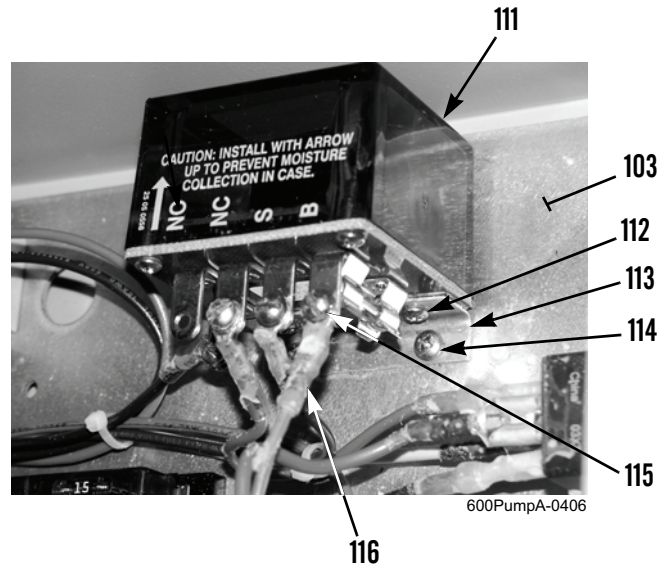

Figure 31. Stopbox.
1. Remove four screws (Figure 31, Item 115) and wires (Figure 31, Item 116) from stopbox (Figure 31, Item 111).
2. Remove two screws (Figure 31, Item 114) and stopbox (Figure 31, Item 111) from inside circuit board panel (Figure 31, Item 103).
3. Remove two screws (Figure 31, Item 112) and bracket (Figure 31, Item 113) from stopbox (Figure 31, Item 111).
1. Install bracket (Figure 31, Item 113) on stopbox (Figure 31, Item 111) with two screws (Figure 31, Item 112).
2. Install stopbox (Figure 31, Item 111) on inside circuit board panel (Figure 31, Item 103) with two screws (Figure 31, Item 114).
3. Install four wires (Figure 31, Item 116) and screws (Figure 31, Item 115) on stopbox (Figure 31, Item 111).